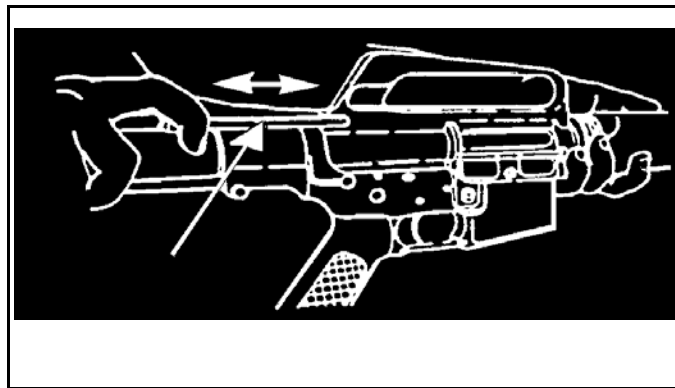

Figure 1. Charging handle.
1. Pull the charging handle all the way back, locking the bolt to the rear. Manually return the charging handle forward (Figure 1).